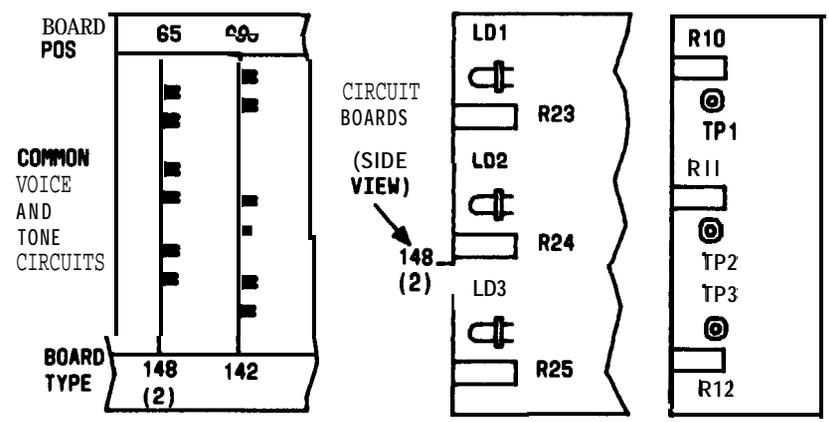

FIG. 2
[10] LOCATE CIRCUIT BOARDS (CB) 142 AND 148-2 IN COMMON VOICE AND TONE (CV AND T) CIRCUITS [FIG. 2]